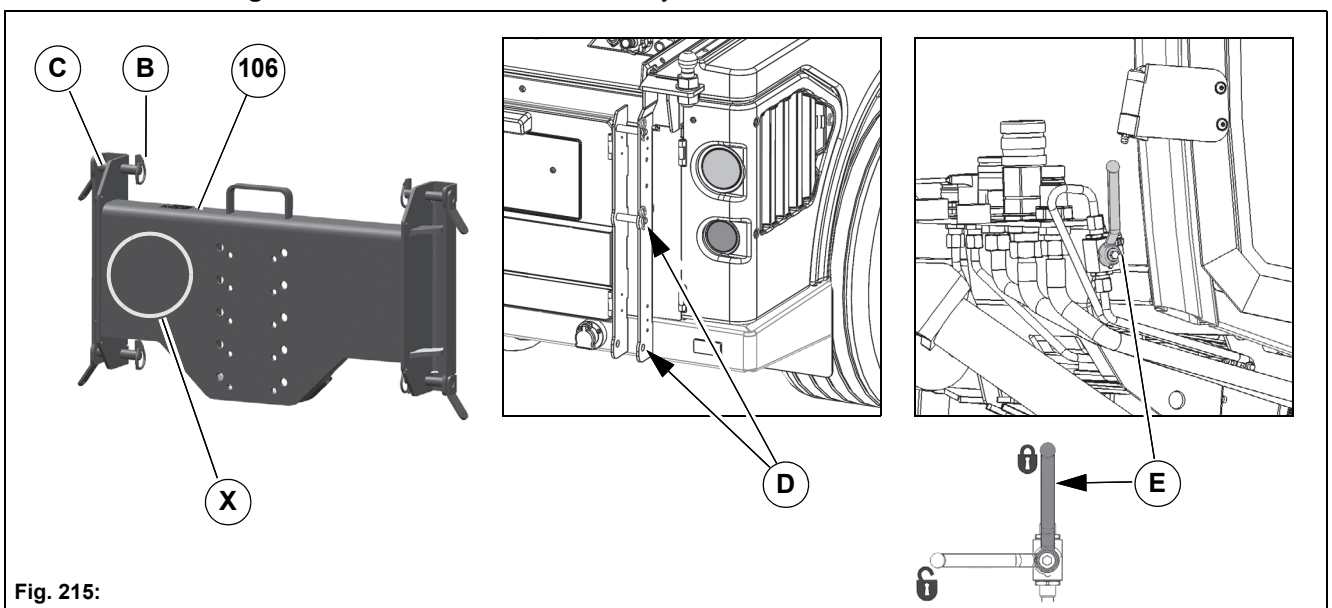

Fig. 215:
1. Remove the locking pins **Fig. 215-B** of the four bolts **Fig. 215-C** of the trailer hitch plate and pull out the bolts.
3. Secure the trailer hitch plate with bolts and locking pins to the holding points **Fig. 215-D** of the vehicle tail.
5. Affix the *Speed* label at position **Fig. 215-X**.
6. Close the valve **Fig. 215-E** for the suction mouth lift system!